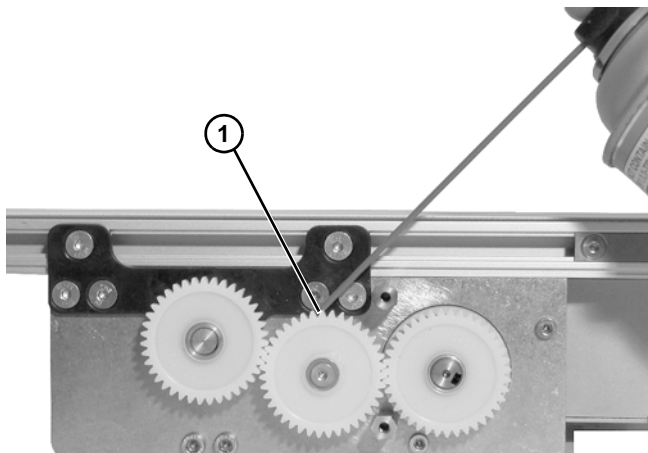

Figure 24
5. Apply a small amount of food grade grease to the teeth of the middle gear (Figure 24, item 1).